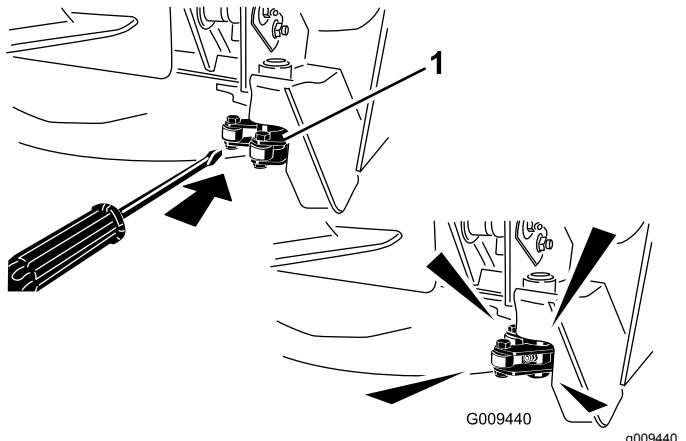

Figure 59
**Note:** You may need to manually trip the latches to gain access to the grease fittings (Figure 59). Use a prybar to close and open the latch.